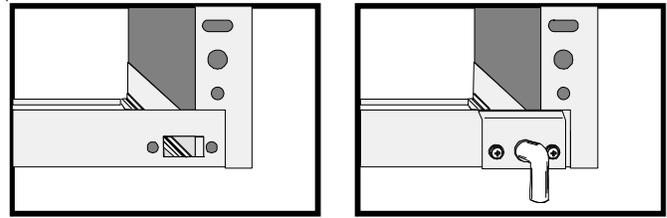

Figure 2
6. Position the entire circuit breaker assembly in the subbase as shown in Figure 2. Using the two screws provided, secure the assembly to the subbase back wall in the subbase high voltage section. The large compression connections should be on the left ("ON" to the left, "OFF" to the right).